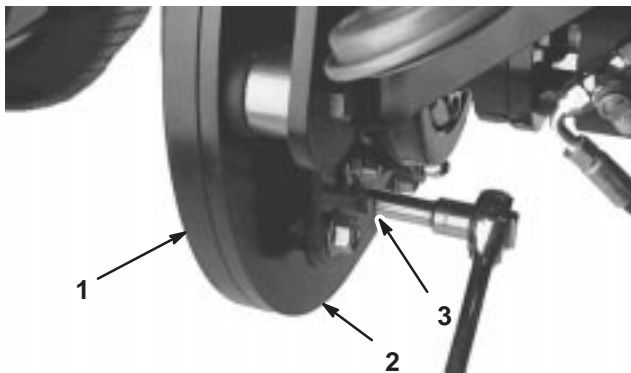

Figure 61
2. Loosen 3 flange screws and flange nuts securing adapter plate to clutch plate (Fig. 61).
3. Insert end of 1/2 in. (13 mm) drive, 20 in. (51 cm) long, torque wrench into square hole in clutch plate (Fig. 61). With wrench handle parallel to ground, pull wrench upward until 180 ft.-lb. (246 N·m) of torque is applied to tension belt.